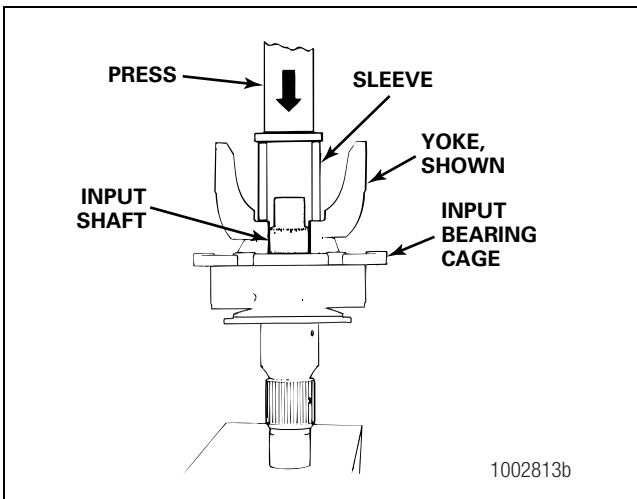

Figure 5.73
- 7. Use a press and sleeve or an installation tool to install the yoke or the flange onto the input shaft. If a press and sleeve are used, verify that the input shaft is well supported. Figure 5.73.